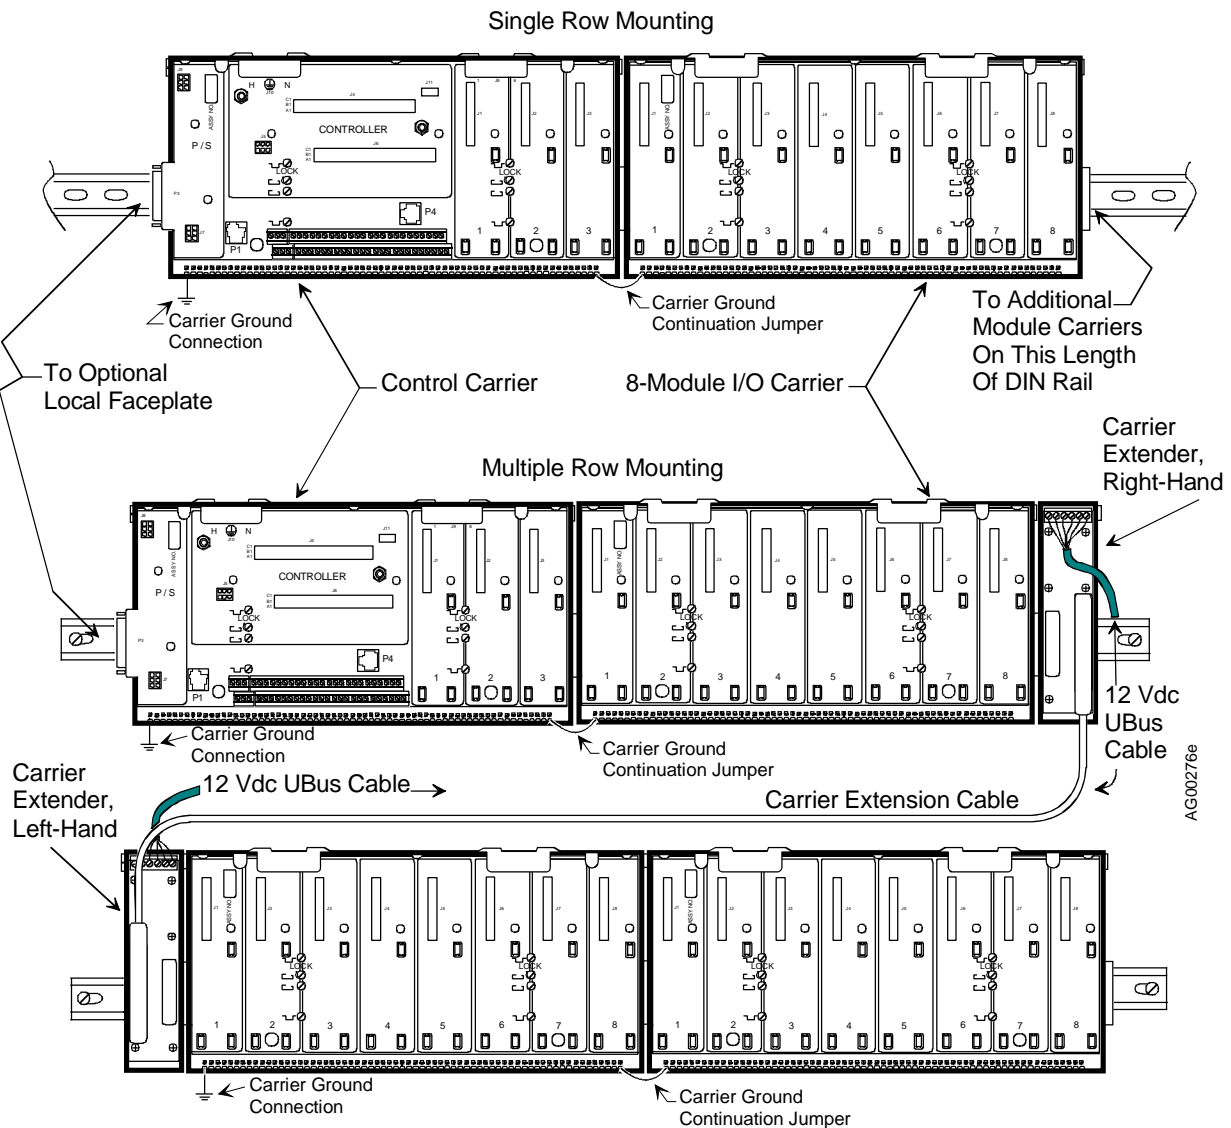
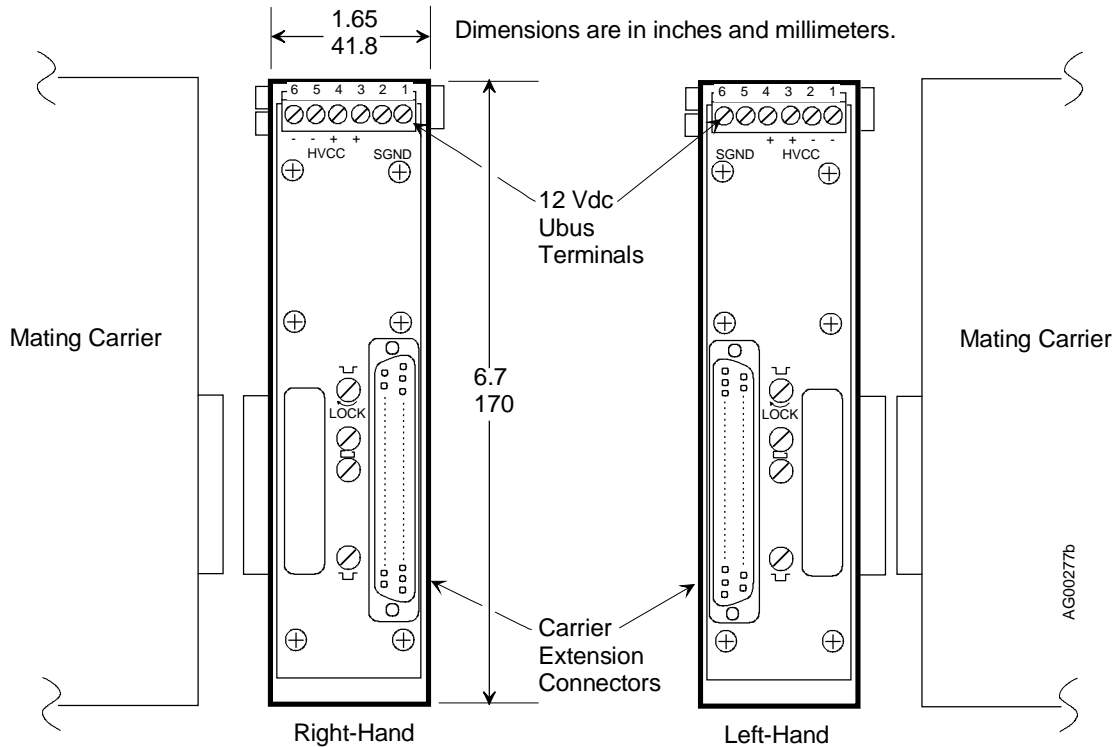

FIGURE 8-7 Carrier Extender Mounting and Cabling
FIGURE 8-8 Carrier Extender Dimensions
This section describes the installation of right-hand and left-hand carrier extenders, the 12V Ubus cable, and the carrier extension cable. Figure 8-7 shows the use of these items in a multiple row configuration. They serve to interconnect adjacent rows by plugging into the carrier (control or module) at the end of one row and into the carrier at the start of the next row. Typically, extenders are not used in single row mounting installations.
A carrier extender plugs directly into a control or module carrier. It is mounted in a similar manner as the carrier into which it is plugged (i.e. DIN rail or flat panel). Carrier extender physical dimensions are shown in Figure 8-8. The carrier extension cable is connected between a right-hand extender and a left-hand extender, as shown in Figure 8-7.
1. Plug the carrier extender into the carrier. Refer to Figure 8-7. The connector seating force and the keys at the ends of the carrier and extender are sufficient to ensure a secure physical and electrical connection. A carrier extender does not fasten to the flat panel.
Figure 8-8 shows the location of the mounting screws with $\frac{1}{4}$ turn nuts that secure the carrier extender to the DIN rail. As shown by the symbols on the carrier extender, there are two pairs of mounting hardware for each DIN rail type. One pair is for G-type DIN rail and one for T-type.
1. Ensure that the $\frac{1}{4}$ -turn nuts are retracted by rotating the screws shown in Figure 8-8 counterclockwise.
2. Locate and orient the carrier extender on the DIN rail and plug the extender into the adjacent carrier. Refer to Figure 8-7 as necessary.
This cable carries the Ubus 12 Vdc from the right-hand carrier extender to the left-hand extender as shown in Figure 8-7. Figure 8-8 shows the 6-terminal connector on each carrier extender. Cable connections are shown in the wiring diagram below. The Ubus cable is not installed when an accessory (external) 12 Vdc power supply is used to power the modules connected to the left-hand carrier extender, as shown in Appendix C.